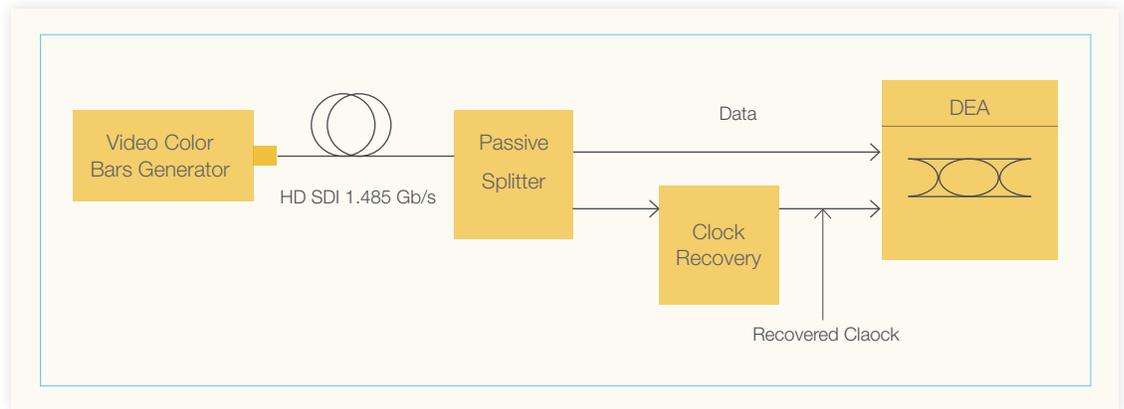

Fig 3.2.2.1. Triggering DEA with recovered clock
**3.2.2: Clock Recovery Unit:** A clock recovery unit is required to generate a serial clock, which can be used to trigger the error detector and scope for eye analysis. Fig 3.2.2.1 shows the configuration. The passive splitter and clock recovery unit can be included in the DEA.